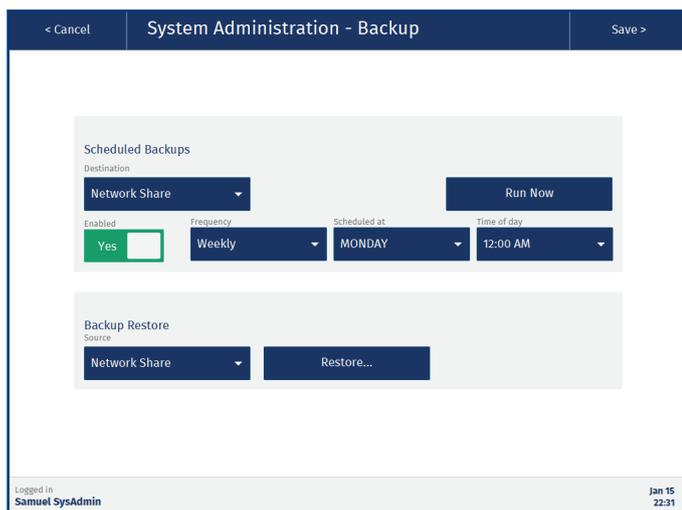

Figure 32. The Backup view.
Backups can be scheduled and started manually in the **Backup** view (see Figure 32) by users with system administrator access.
2. If the system has both network share and USB export enabled, select where you want the backup to be stored from the **Destination** drop-down list (see Figure 32).
4. If the system has both network share and USB export enabled, select the location of the backup file from the **Source** drop-down list (see Figure 32).